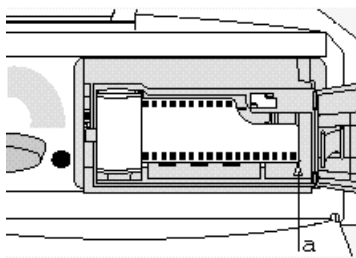

Figure 2-11. Aligning the end of the film
3. Pull the end of the film out carefully, until the end is aligned with the white triangle at the lower right, near the take-up spool (**a** in Figure 2-11). If you pull it out too far, take the cassette out and wind the extra film back in by turning the black knob at the top of the cassette.